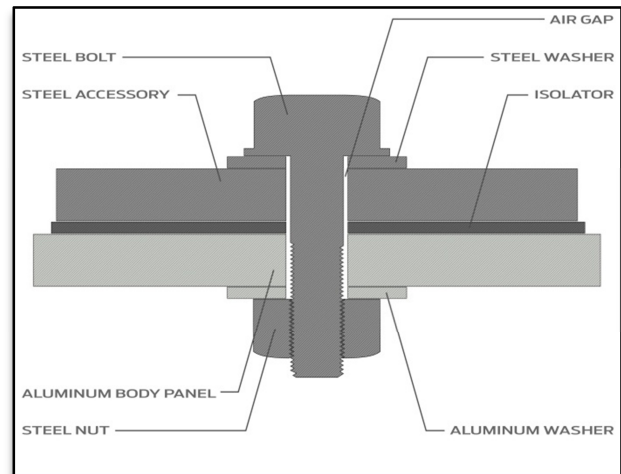

Figure 2
**Figure 2** shows a steel accessory and steel fastener properly isolated from contact with the aluminum sheet metal.